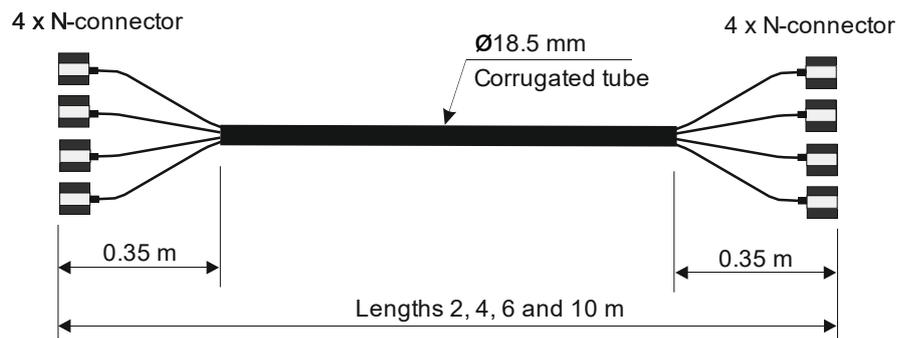

Figure 3-15:
**Version 1:** The so-called HF-cable quad: It consists of four single HF-cables of equal length, whose ends are terminated by one HF-connector (N-type). Available cable lengths: 2, 4, 6 and 10 m (see Figure 3-15).